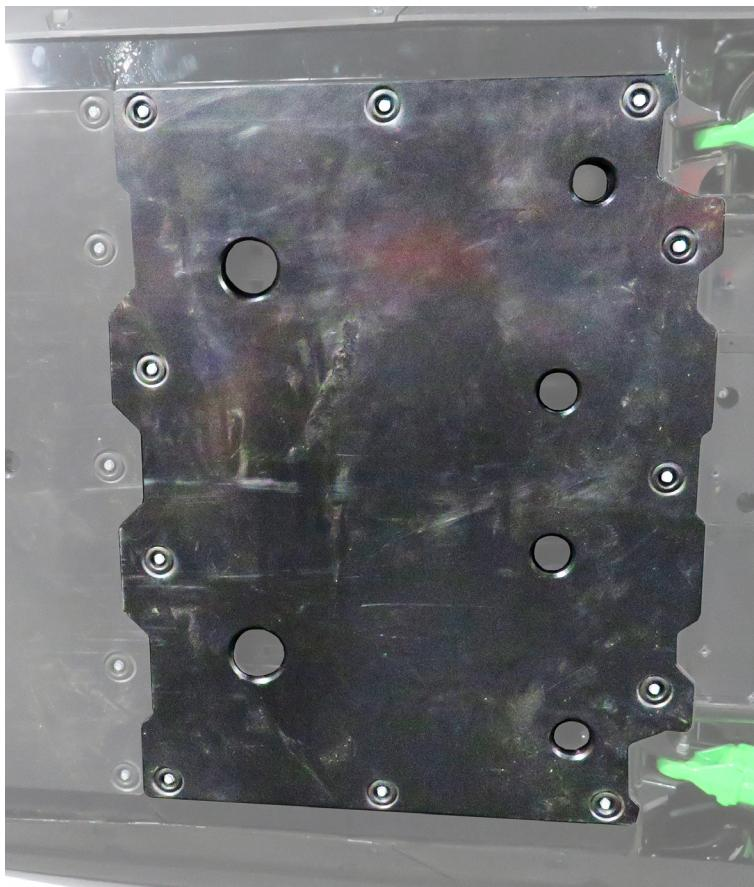

Fig.9a
9. Next, Install Plate #4 as shown in **Fig.9a-b**. You will only be installing the **M6x30 Hex Bolts** in this panel. Keep them a little loose for now. See **Fig.9a-b**.